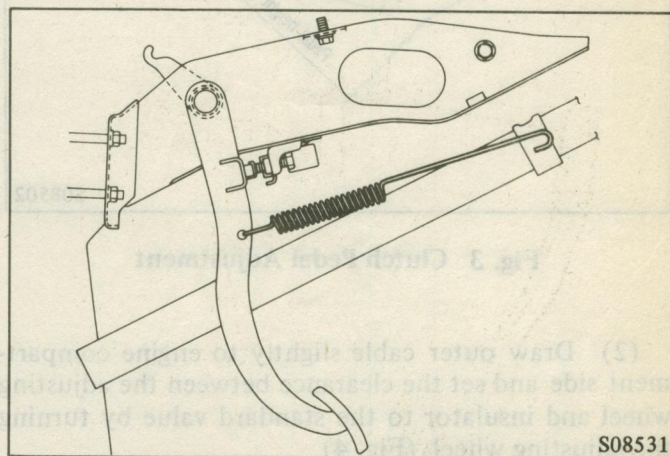

Fig. 2 Installation of Return Spring
- (1) Apply adequate chassis grease (MOPAR Multi-mileage Lubricant Part Number 2525035 or equivalent) to the pedal shaft, and also apply a thin coat of the same lubricant to the clutch cable connection at the tip of the clutch pedal arm.
- (2) After installing the brake and clutch pedals to the support, check to be sure there is no more than 3 mm (.12 in.) of lateral play at the center of the foot pads. If there is excess play, replace the bushing.
- (3) Adjust the brake pedal. (Refer to GROUP 5)
- (4) After confirming smooth and easy movement of the clutch pedal on the support member, install the return spring as shown in Fig. 2.